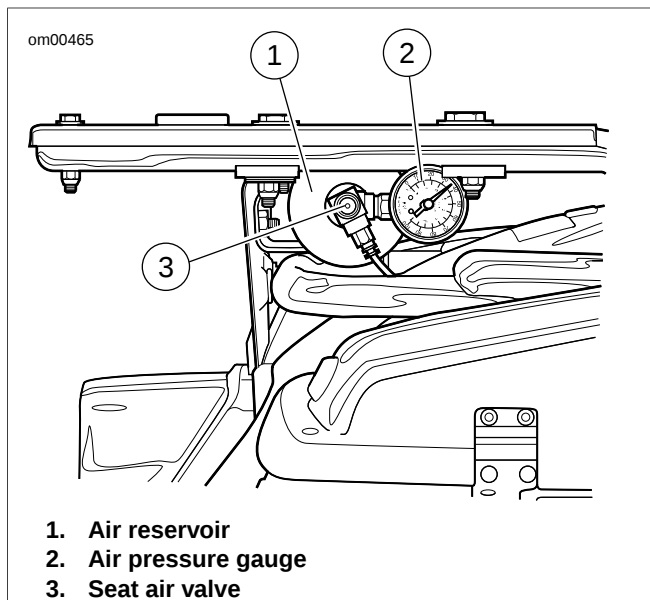

Figure 2-5. Seat Air Valve: Police Models
2. On the right side of the motorcycle, locate the air seat reservoir air valve under the luggage rack, and on the left side, the rear shock air valve just below the chrome frame cover. See Figure 2-5 and Figure 2-6.
- Fill air reservoir to 40 psi (275.8 kPa), then add or remove pressure to the rider's comfort. Install protective cap on air valve. See Figure 2-5.